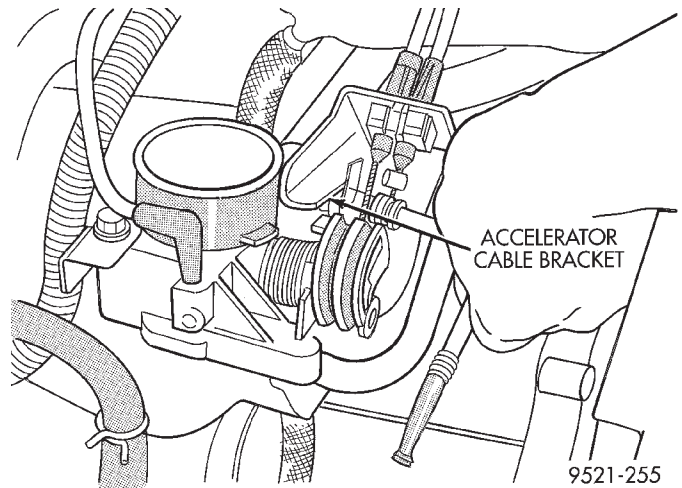

Fig. 23 Accelerator Cable Bracket
(8) Remove accelerator cable bracket at throttle body (Fig. 23).